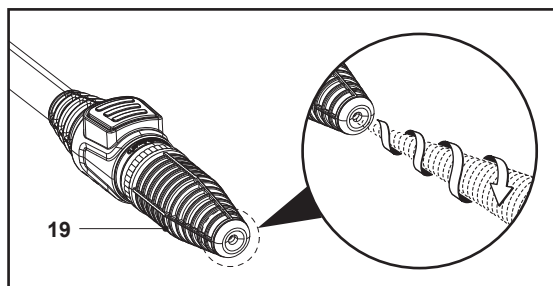

Fig. 12
The turbo nozzle (19) rotates as it sprays high-pressure jets of water for efficient washing (Fig. 12).